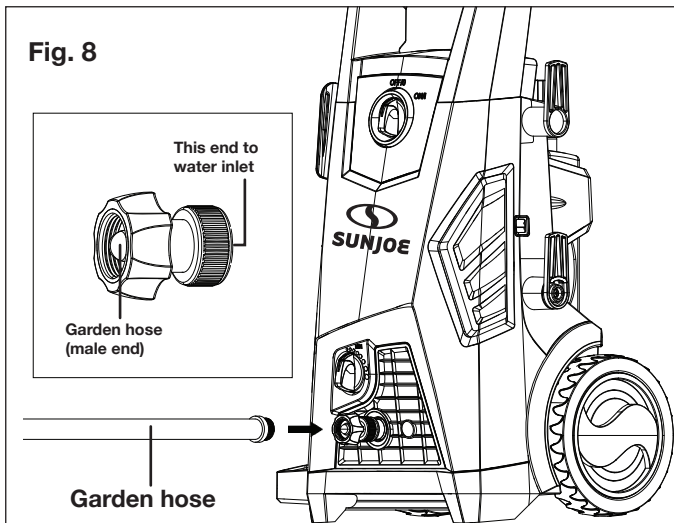

Fig. 8
8. Connect the garden hose adapter (female coupler) to the water inlet of the pressure washer, then thread your garden hose (male end) into the garden hose adapter (Fig. 8). The garden hose must have an internal diameter of at least 13 mm (1/2 in.) and must be reinforced. The water supply must be at least equal to the washer delivery capacity.